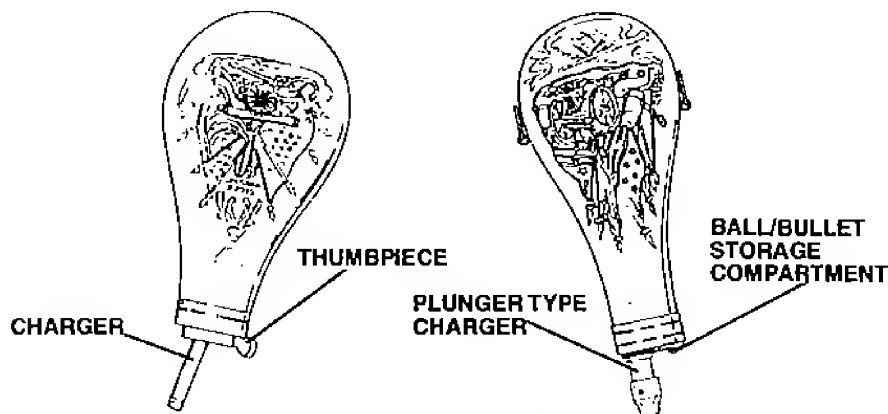

FIGURE 2-POWDER FLASKS
7. With revolver muzzle pointing upwards, place a charge of BLACK POWDER appropriate to your revolver in a chamber; this can be done using one of the powder flasks illustrated in Figure 2 and described above.